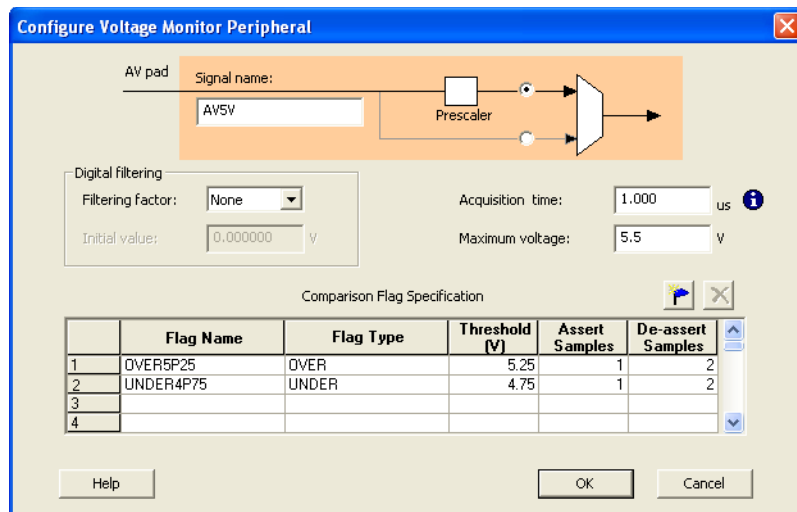

Figure 2-3 · Configure Voltage Monitor Peripheral Window
6. Enter the following information (as shown in Figure 2-3) :